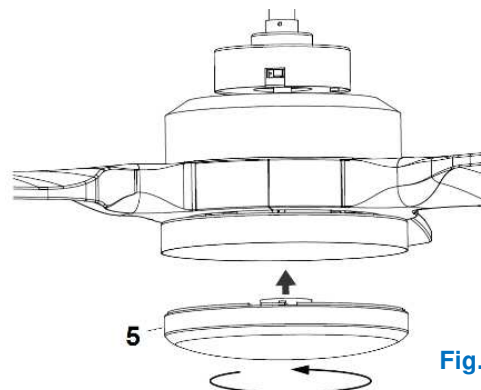

Fig. 8
- Install the globe (5) into the lamp holder. (Fig. 8)